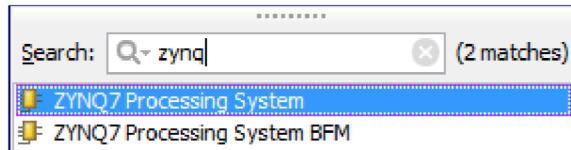

Figure 1.13: Adding ZYNQ7 Processing System from IP Catalog
- (d) Enter **zyng** in the search field and select the **ZYNQ7 Processing System**, as shown in Figure 1.13. Be careful not to select the **BFM** version and press the **Enter** key on your keyboard.